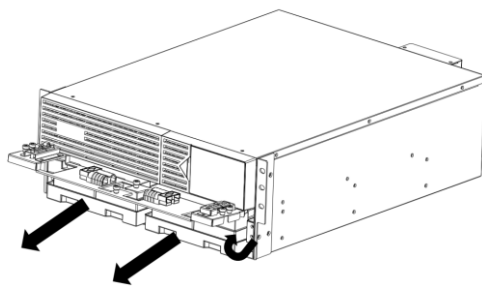

**Figure 1**
- 1) Expose the battery module by removing the front cover. The cover is anchored using a tension clip. Simply hold the side and pull directly away from the UPS housing. (Figures 1 and 2)
- 2) Separate the black Anderson battery module connections. There are two on the ED5KRT and ED6KRT. There are four on the ED8KRT and ED10KRT. (Figures 1 and 2)